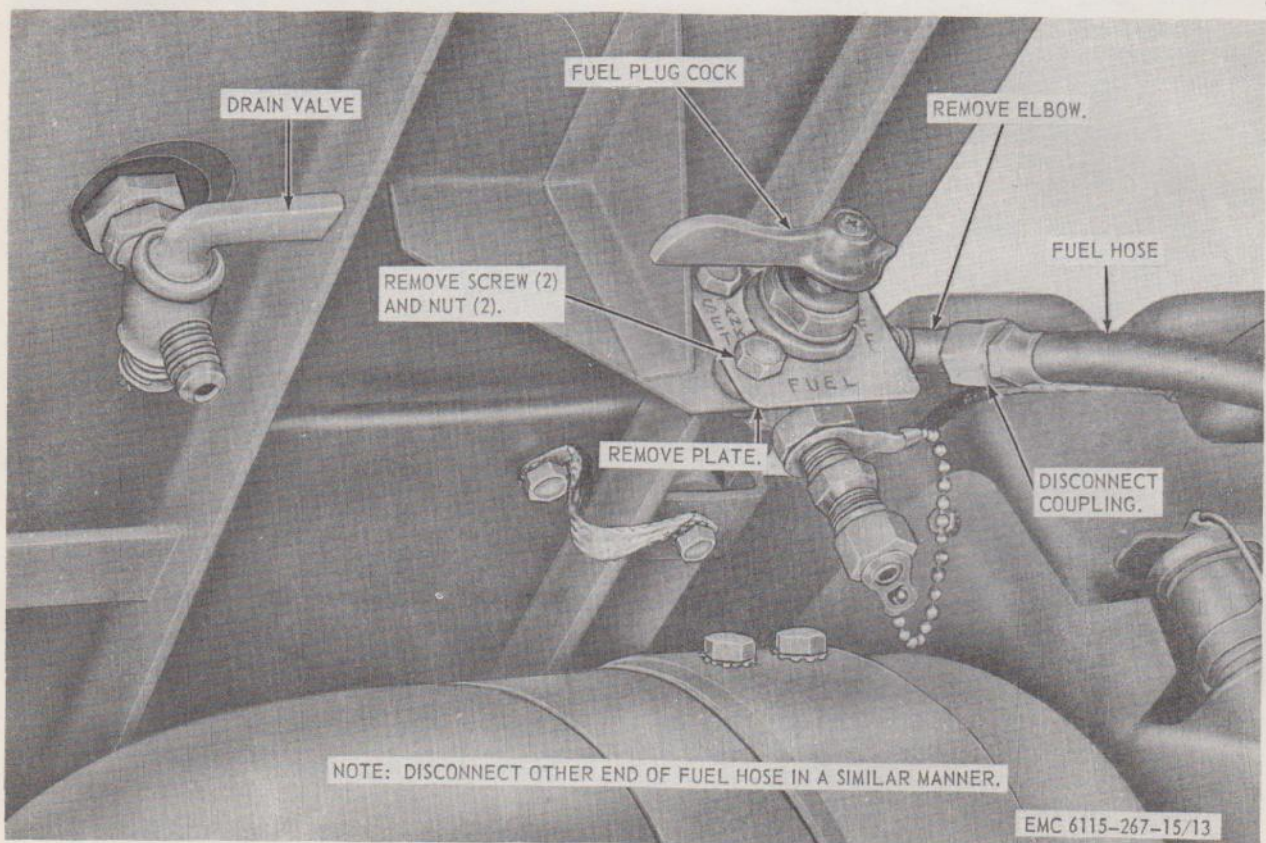

Figure 13. Fuel hose, drain valve, and fuel plug cock—removal and installation.
- (1) Drain the fuel tank (par. 10).
- (2) Refer to figure 13 and remove the fuel hose, drain valve, and fuel plug cock.
- (1) Refer to figure 13 and install the drain valve, fuel hose, and fuel plug cock.
- (2) Service the fuel tank (par. 10).